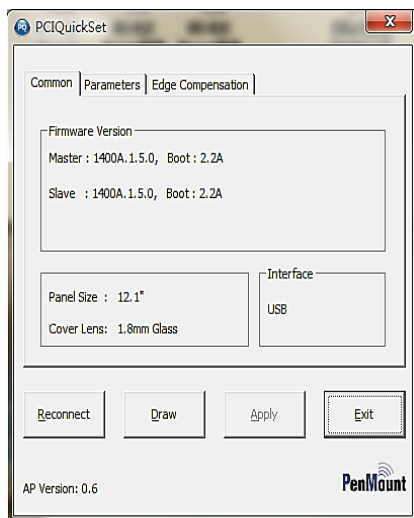

Fig.40
- Common: This tab shows firmware version, panel size, cover glass thickness, and interface. (Fig.40)